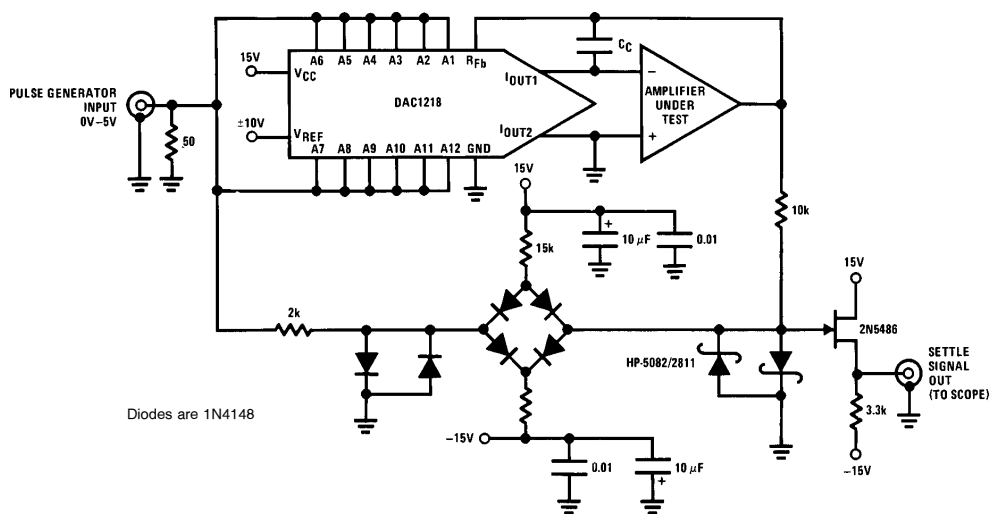

FIGURE 5. DAC Settling Time Test Circuit
*Figure 5* is a settling time test circuit for the complete voltage output DAC circuit. The circuit allows the settling time of the DAC amplifier to be measured to a resolution of 1 mV out of a zero to  $\pm 10V$  full-scale output change on an oscilloscope. *Figure 6* summarizes the measured settling times for several output amplifiers and feedback compensation capacitors.